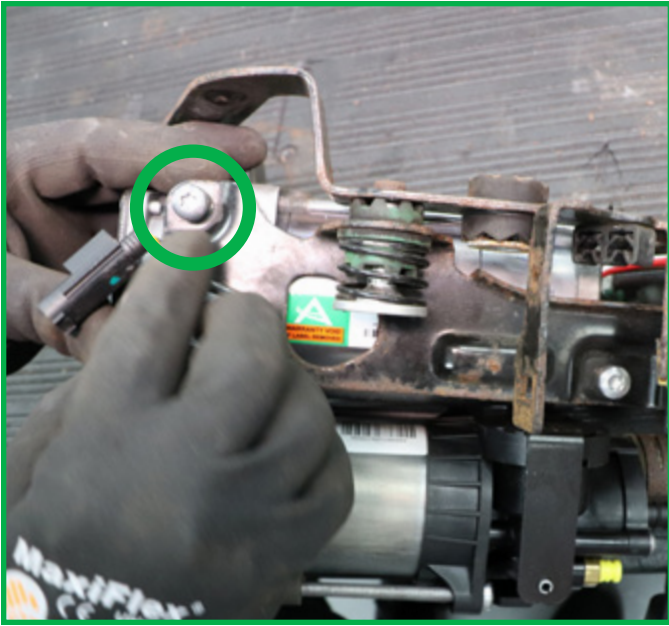

FIGURE 27
3. Use the provided four (4) screws to attach the new compressor to the compressor bracket assembly. (Figures 27, 28, 29)